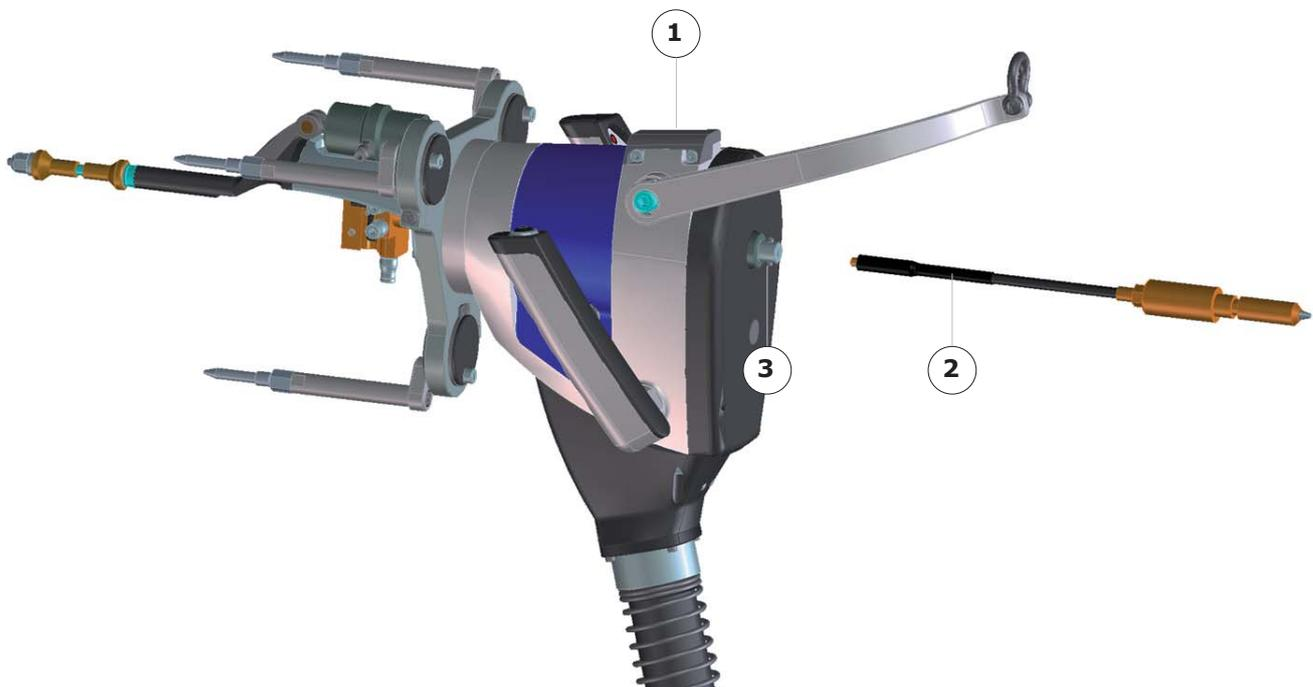

Fig.5.8 - Polyfil-3 wire sheath
- Put the plug (Fig.5.8 - 1) in place.
- Insert the Polyfil-3 sheath (Fig.5.8 - 2) in the wire attachment (Fig.5.8 - 3).